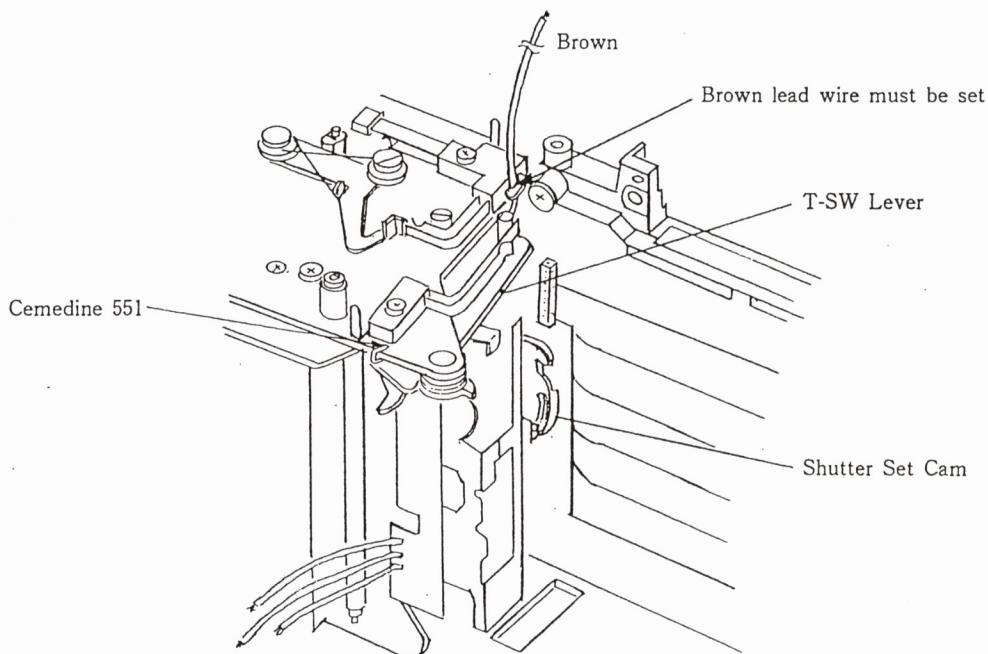

Fig. 72
- Shutter Set Cam is down as in Fig 72.
- T-SW Lever is into the groove of F Set Cam as shown in Fig 72.